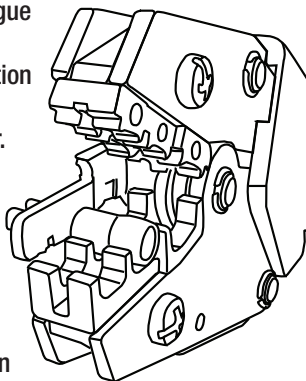

Figure 2
2. Insert terminal into proper nest as shown in Figure 2. Tongue markings should face up.